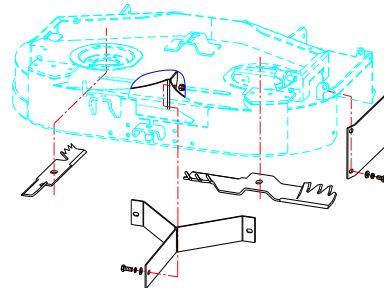

FIG 3
- Mulching Assembly (2832010/3210135): See FIG 3